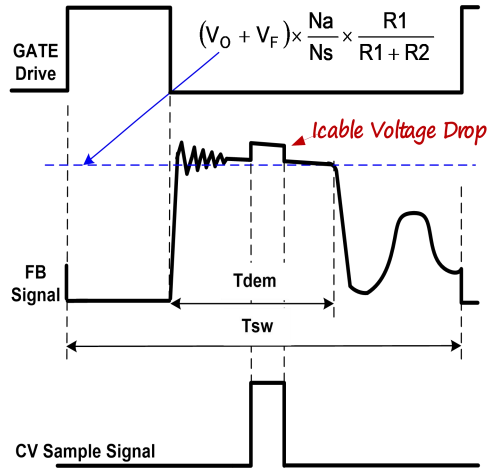

Fig.1
In primary side control, the output voltage is sensed on the auxiliary winding during the transfer of transformer energy to the secondary. The CV sampling signal timing waveform in CT56002. As shown in Fig.1, it is clear that there is a down slope representing a decreasing total rectifier V_f and its voltage drop as the secondary current decreases to zero. To achieve an accurate representation of the secondary output voltage on the auxiliary winding, the CV sampling signal blocks the leakage inductance reset and ringing. When the CV sampling process is over, the internal sample/hold (S&H) circuit captures the error signal and amplifies it through the internal Error Amplifier (EA). The output of EA is sent to the Primary Side Constant Voltage Modulator (PS-CVM) for CV control. The internal reference voltage for EA is trimmed to 2V with high accuracy. During the CV sampling process, an internal variable current source is flowing to FB pin for Cable Drop Compensation (CDC). Thus, there is a step at FB pin in the transformer demagnetization process, as shown in Fig.1. Fig.1 also illustrates the equation for “demagnetization plateau”, where V_o and V_f is the output voltage and diode forward voltage; R_1 and R_2 is the resistor divider connected from the auxiliary winding to FB Pin, N_s and N_a are secondary winding and auxiliary winding respectively.